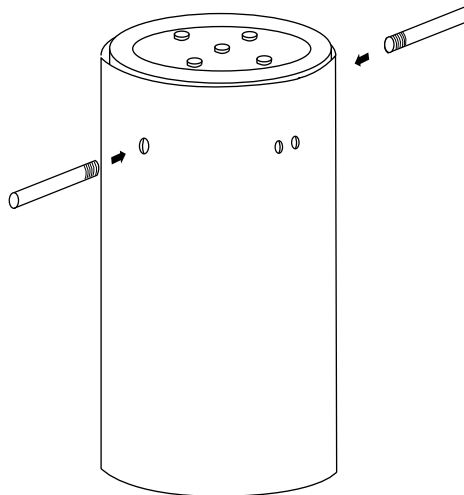

Fig. 3.1 Fitting the lifting handles
1) Fit the lifting handles into the tapped holes on each side of the outer cylinder of the isolator – see Fig. 3.1.